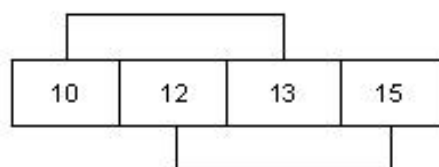

Figure 4 – Configuration 4
1.11 Perform a continuity check at the PAM side (top) of the terminal rail, to verify the following configuration (Figure 4):